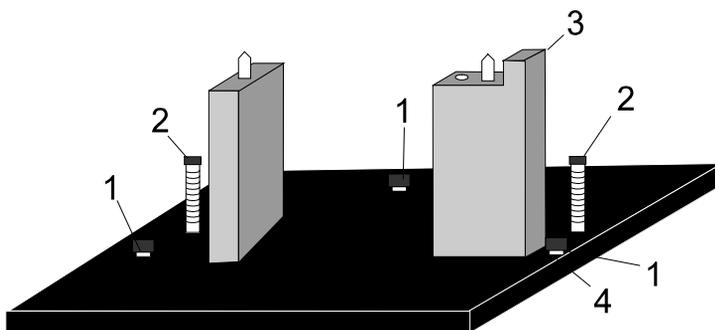

Figure 3. Cell holder base
- 2 Place the cell holder base in the sample position on the base plate. The notched pillar (see Figure 3 below) should be on the side to the right.